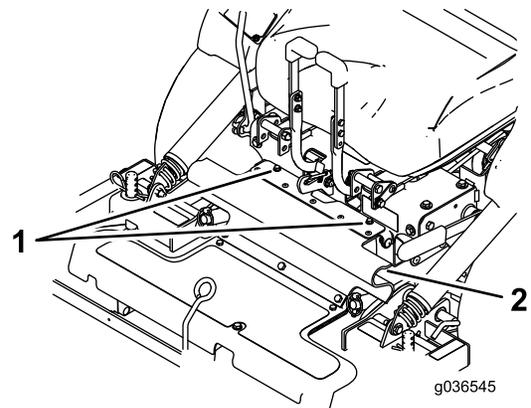

Figure 13
3. Loosen the bolts attached to the rubber guard (Figure 13).